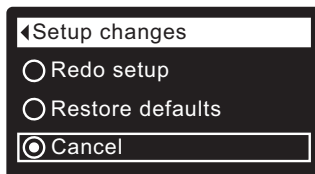

FIG. 34
1. From any of the rolling status screens, press the SELECT (O) button to display the **Main menu**.
3. Press the SELECT (O) button to display the Advanced settings menu.
5. Press the SELECT (O) button to display the Troubleshooting menu.
7. Press the SELECT (O) button to display the Setup changes menu (See Figure 34).
8. Press the RIGHT (▶) button. The flashing padlock icon will disappear, as shown in Figure 34.
9. Press the SELECT (O) button.